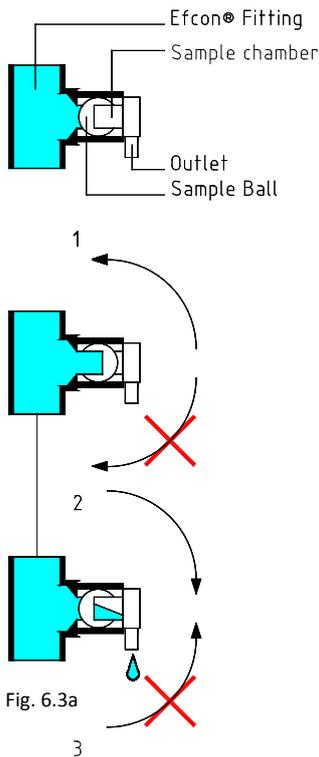

Fig. 6.3a
- When the activation stops, the sample bullet will rotate 180° back and drop the sample through the outlet and silicon hose to the sample container. See fig. 6.3a.